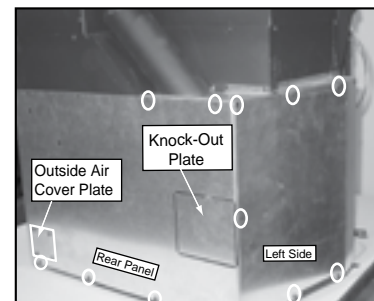

Figure 19.3
Top Vent Applications: Leave knock-out plate in place. **Figure 19.3**
1. Install rear panel using 4 screws along bottom and 2 screws into the left shroud corner piece at the top. **Figure 19.3.**
3. Attach left shroud panel using seven screws, 3 on top and bottom and 1 along the side. **Figure 19.3.**